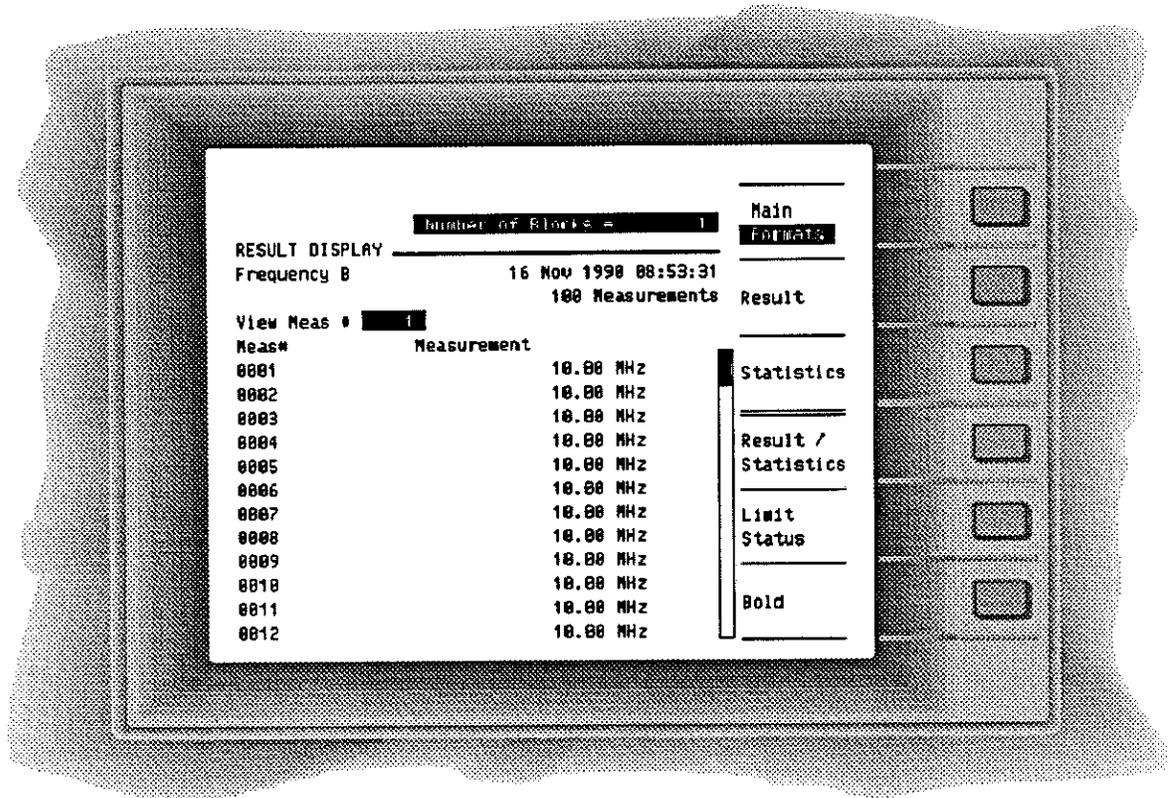

Figure 2-12. Numeric Screen Result Formats
- The softkey labels show the options for the result displays. (See *Figure 2-12*.)